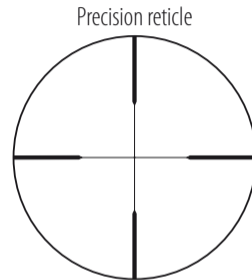

Fig. 3
(1) Focusing
- 1 Look through the eyepiece with your eye positioned about 4 in. (10 cm) away from the eyepiece to see the Precision reticle (Fig. 3). Be sure your eye is positioned with proper alignment and with proper eye relief, otherwise the view will “black out.”